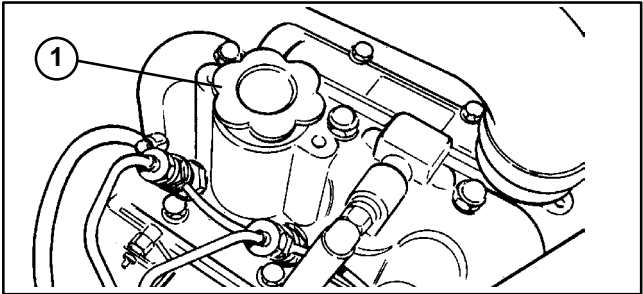

Figure 14
- A. Remove oil fill cap (Fig. 14) and gradually add small quantities of oil .